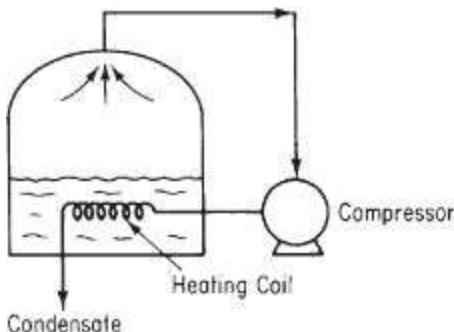

Figure P9.3.43
***9.3.43. In the vapor-recompression evaporator shown in Figure P9.3.43, the vapor produced on evaporation is compressed to a higher pressure and passed through the heating coil to provide the energy for evaporation. The steam entering the compressor is 98% vapor and 2% liquid, at 10 psia; the steam leaving the compressor is at 50 psia and 400°F ; and 6 Btu of heat are lost from the compressor per pound of steam throughput. The condensate leaving the heating coil is at 50 psia, 200°F .